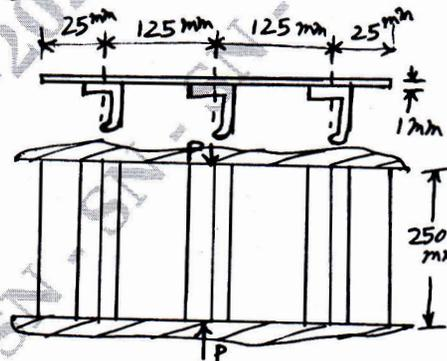

Fig.Q5(b)
b. The sheet stringer panel shown in Fig.Q5(b) is loaded in compression. The sheet is assumed to be simply supported at the loaded ends and free at the sides. Each stringer has an area of 65 mm^2 . Assume $E = 7.1 \times 10^4 \text{ MPa}$, $K = 3.62$ and 0.385 for the sheet between stringers and edge of the sheet respectively. Find the total compressive load (i) when the sheet first buckles (ii) when the stringer stress is 69 MPa .